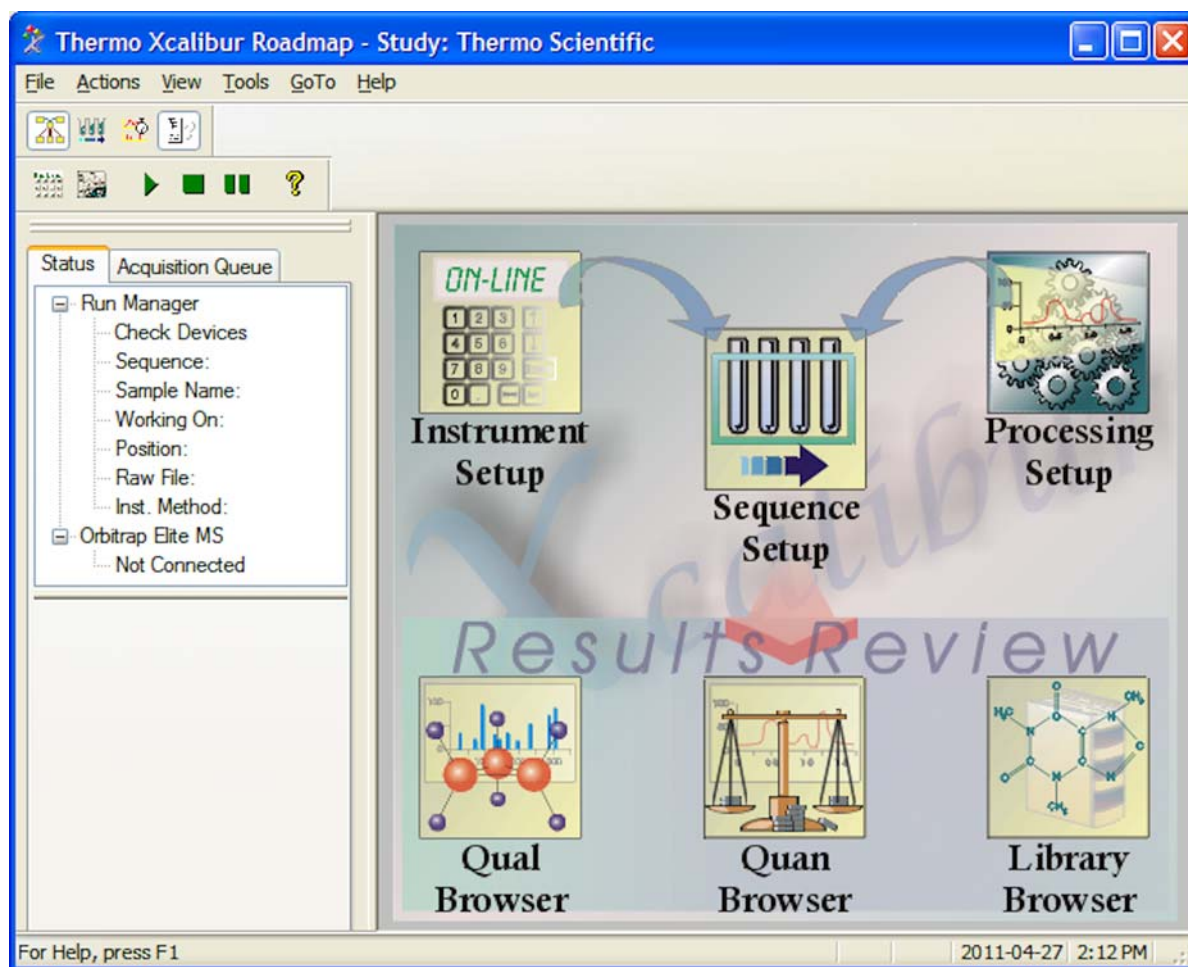

Figure 7-32. Xcalibur Roadmap Home Page
1. Open the Xcalibur application (for example, from the Microsoft Windows desktop). The Roadmap Home Page appears. See Figure 7-32.
11. Click **File > Save As** to save your Xcalibur method under the file name of your choice. (See Figure 7-37.) This method can be chosen and run when Sequence Setup is chosen in the Xcalibur Roadmap Home Page. (See Figure 7-32 on page 7-35.) Refer to your Xcalibur Help and the previous chapters of this manual for information about the other Data Dependent settings.